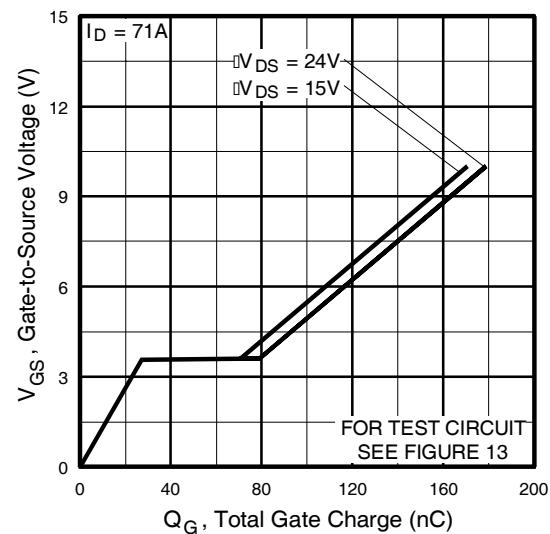

Fig 6. Typical Gate Charge Vs.
| Q_{gd} | Gate-to-Drain ("Miller") Charge | — | — | 78 | | $V_{\text{GS}} = 4.5\text{V}$, See Fig. 6 and 13 ④⑤ |